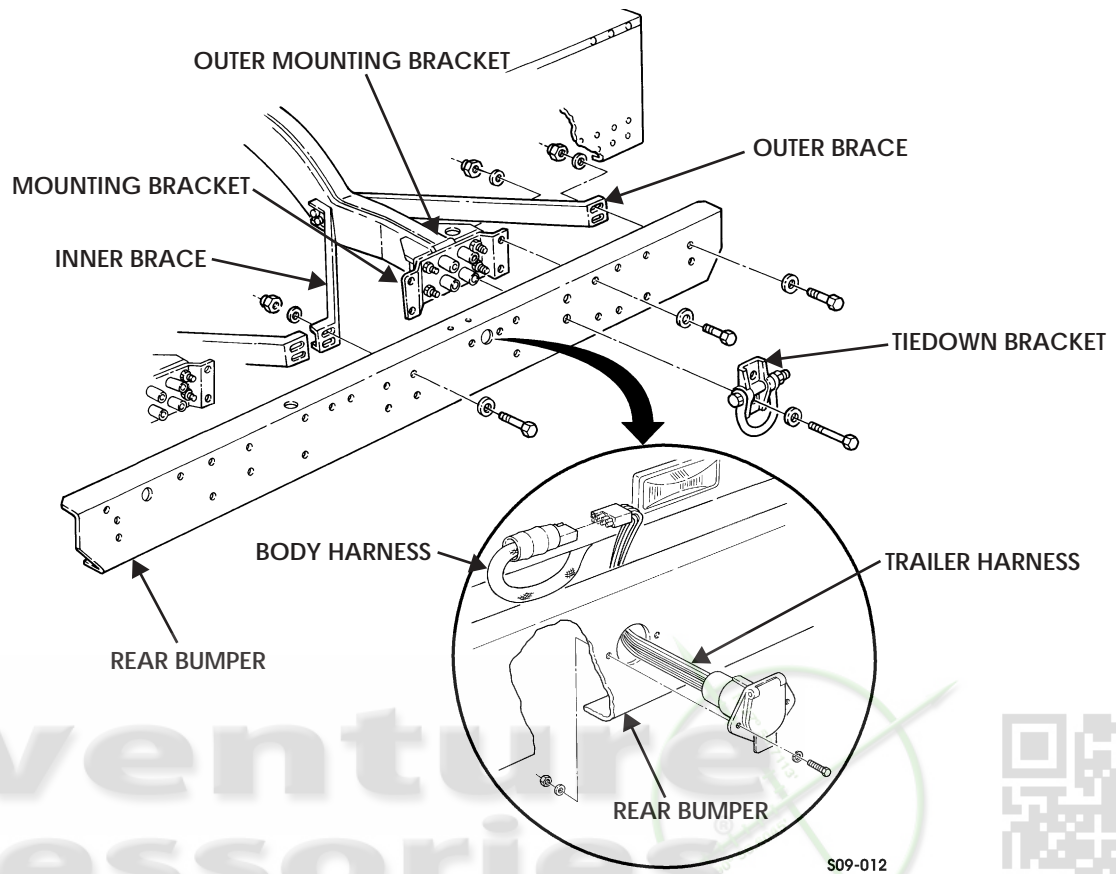

Figure 9-24: Rear Bumper
4. Remove two locknuts, washers, capscrews, and washers securing trailer harness to rear bumper. Discard locknuts (Figure 9-24).
1. Install rear bumper on two mounting brackets and secure with eight washers and capscrews. Do not tighten capscrews (Figure 9-24).